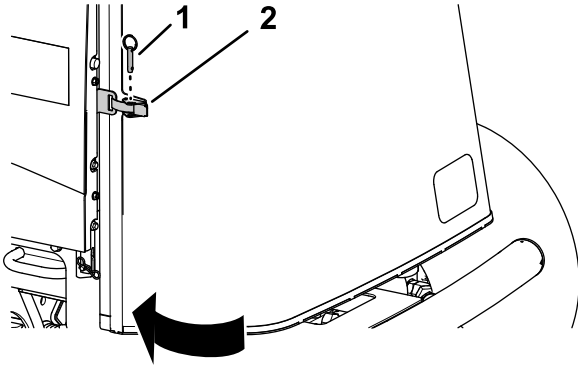

Figure 104
1. Close and latch the screen (Figure 104).